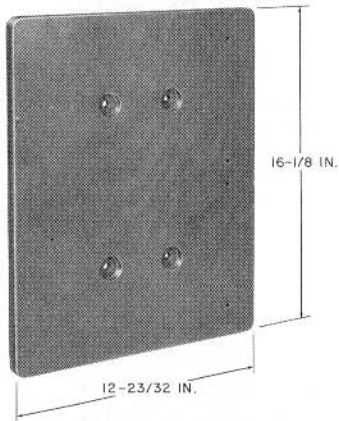

Fig. 20—173A Backboard
5.01 The 173A backboard (Fig. 20) is designed to mount one or two 15A apparatus mountings.